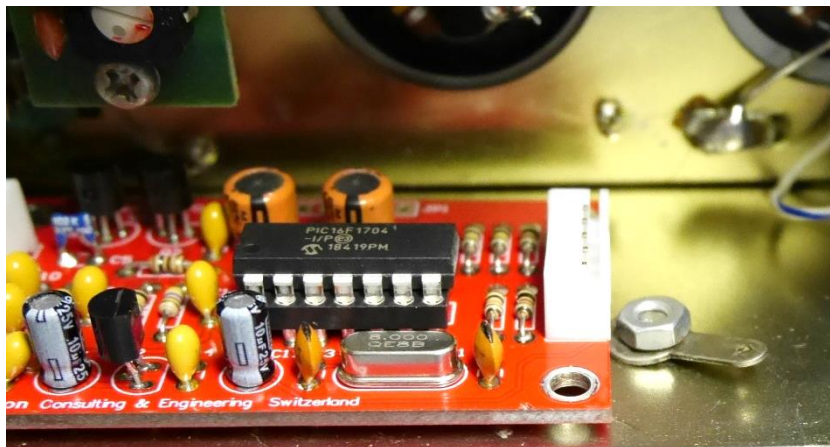

Figure 4- Ground connection
(3) There is convenient screw sticking through from the high voltage cage (see Figure 4- Ground connection). We will turn this into ground mounting stud with the use of nut and ground lug. Position the EL-34 so the power wires are on the right end of board next to ground lug to keep lead length short.